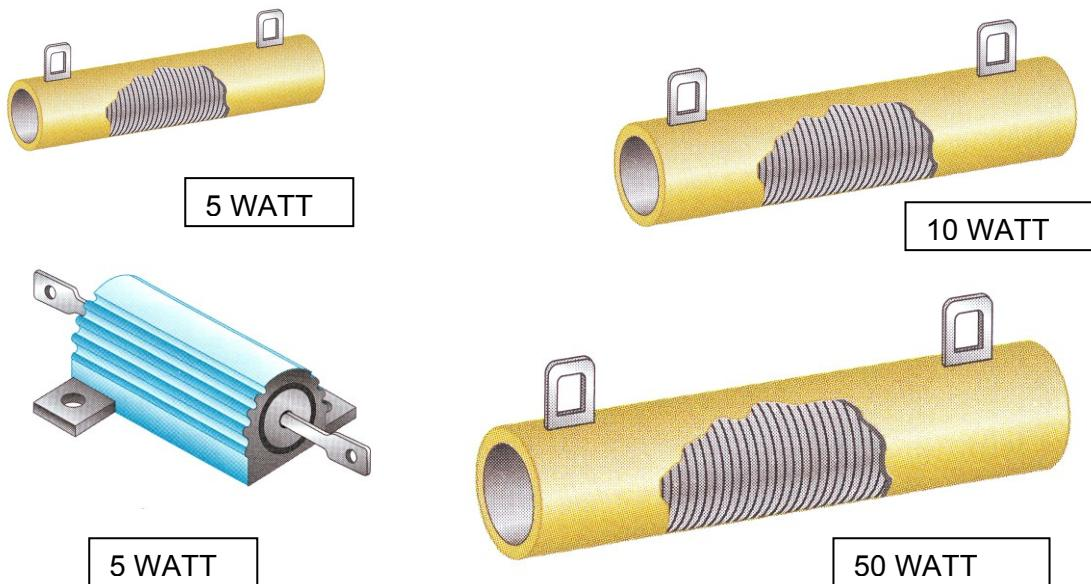

Figure 5
2. Wire-wound resistors (see Fig. 5)